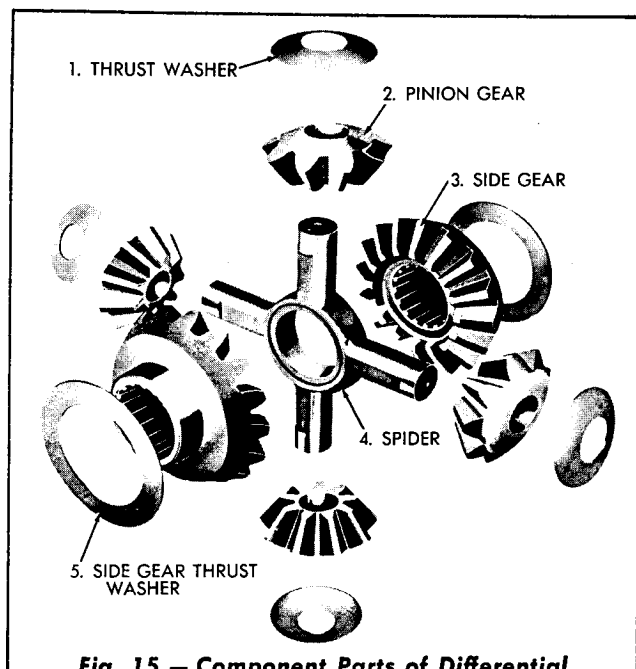

Fig. 15 – Component Parts of Differential
3. Install one thrust washer and one side gear in the bevel gear and case half assembly. Assemble the pinion gears, the thrust washers, and the spider and place them in position (Figs. 15 and 16).